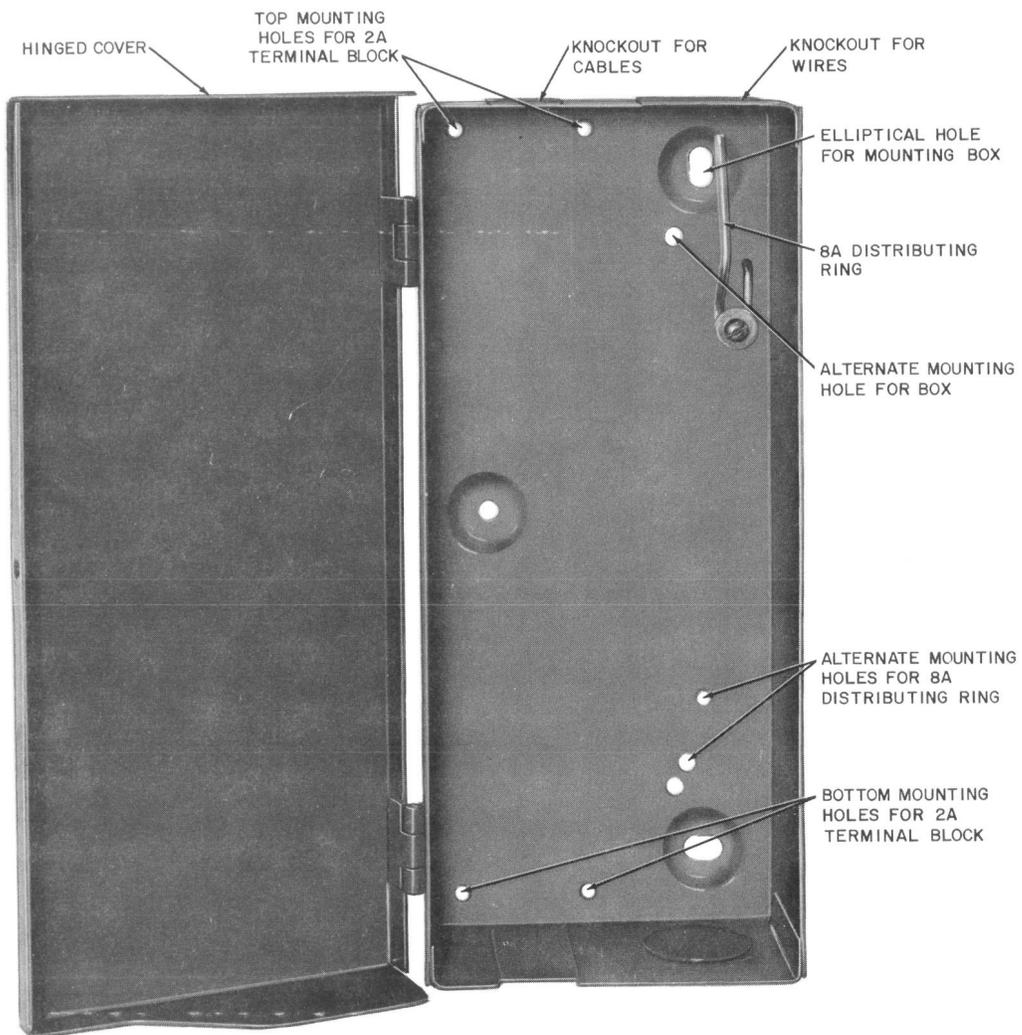

Fig. 1—GA-Type Cable Terminal Box
2.03 The GA-type cable terminal box is shown in Fig. 1. The dimensions are listed in Table A.